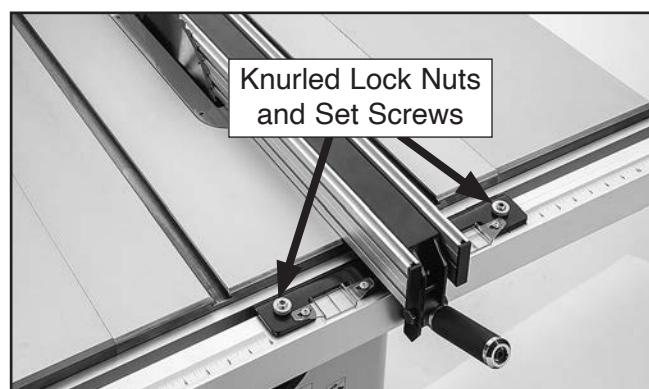

Figure 119. Location of lock nuts and set screws for adjusting fence squareness and height.
3. Loosen knurled lock nuts and adjust set screws (see **Figure 119**) on top of fence bracket to ensure fence face is 90° to table. Tighten lock nuts when fence is square to table.